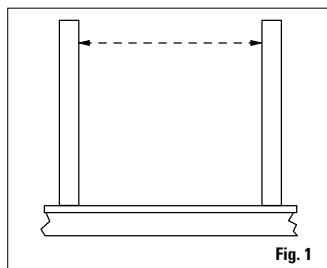

Fig. 1
Step 1: Measure railing opening. Measure opening from post to post to determine the length of each baluster rail section. (Fig. 1)
Follow Step 1 and cut top and bottom rails to length, with proper angle. Clamp together and mark top and bottom rails every 9" on-center. (Fig. 1)